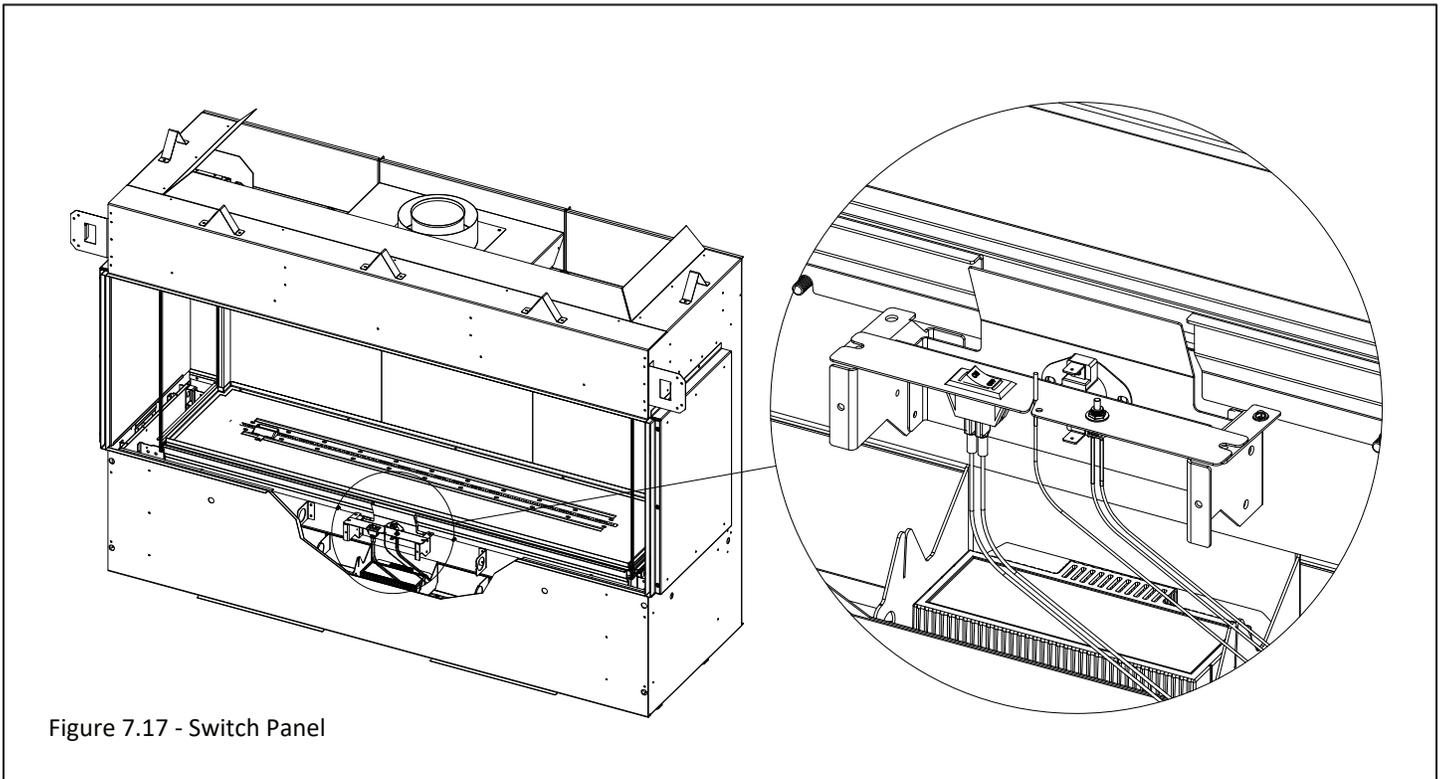

Figure 7.17 - Switch Panel
4. Remove the (2) sheet metal screws that secure the switch panel. Lift this panel off its support bracket and locate the slits in the control module brackets. Slide the switch panel into these openings to secure it during control board removal. Figure 7.17 and 7.18.